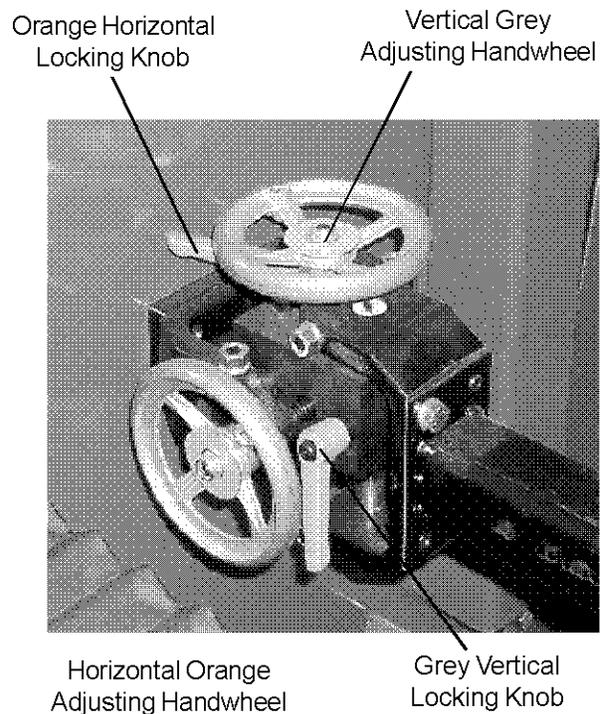
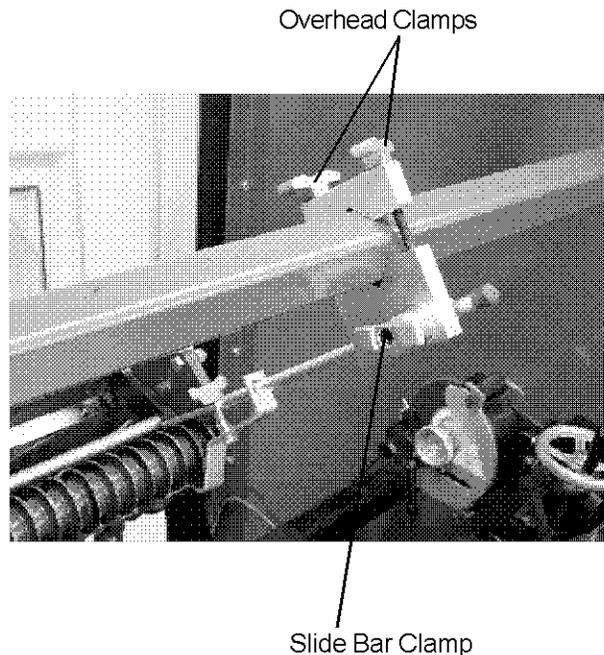

FIG. 54
FIG. 55
H. When the horizontal parallelism has been adjusted to within .003" (.076 MM) end to end, tighten the horizontal adjustment locking handle. See FIG. 54 and both overhead clamp adjusting knobs. See FIG. 55. When tightening the knob it is very important that you have the dial indicator located at that side of the reel and watch it as you tighten. It must not move in the tightening process. After both knobs are tight, recheck alignment.
- H. When the horizontal parallelism has been adjusted to within .003" (.076 MM) end to end, tighten the orange horizontal adjustment locking knob See FIG. 54 and both overhead clamp adjusting knobs. See FIG. 55. When tightening the knob it is very important that you have the dial indicator located at that side of the reel and watch it as you tighten. It must not move in the tightening process. After both knobs are tight, recheck alignment.